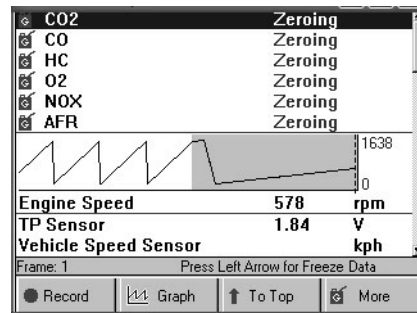

Figure 9.3: Gas and Data Display
- 4 Follow the instructions on the screen and then press the **OK** function key. This “zeros” the gas module and then displays the live data readings (Figure 9.3).